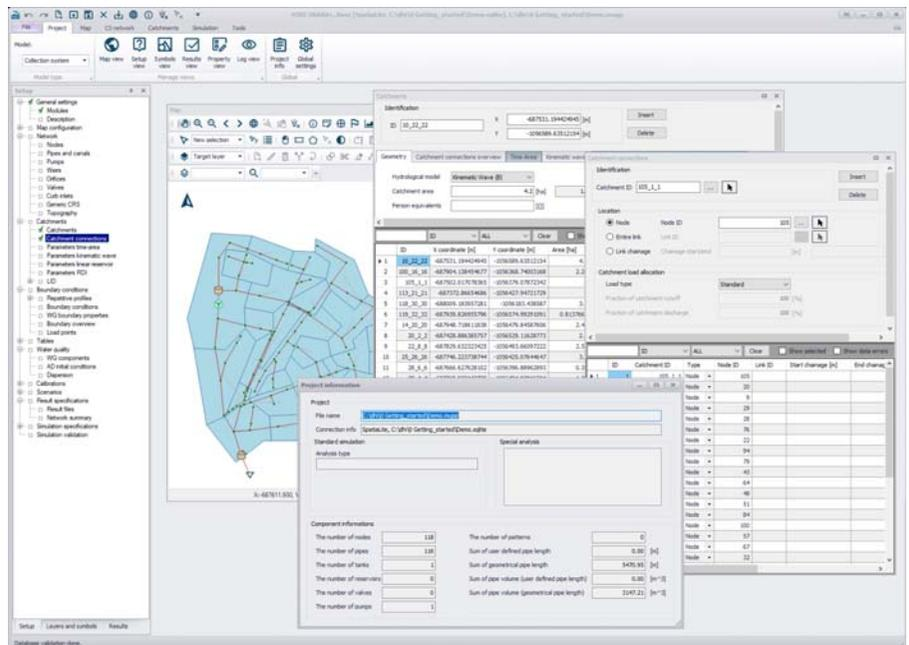

Figure 2.4 MU+ GUI with "floating" editors
- When "Floated", editors are displayed in a stack, with the active editor on top. This shown in Figure 2.4.